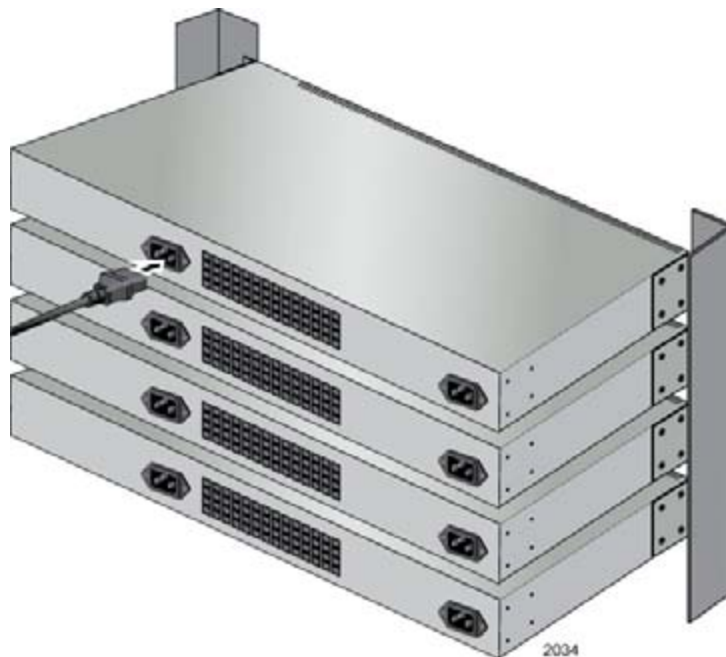

Figure 29. Connecting the AC Power Cord
1. Plug the power cord into the AC power connector on the back panel of the unit (see Figure 29).